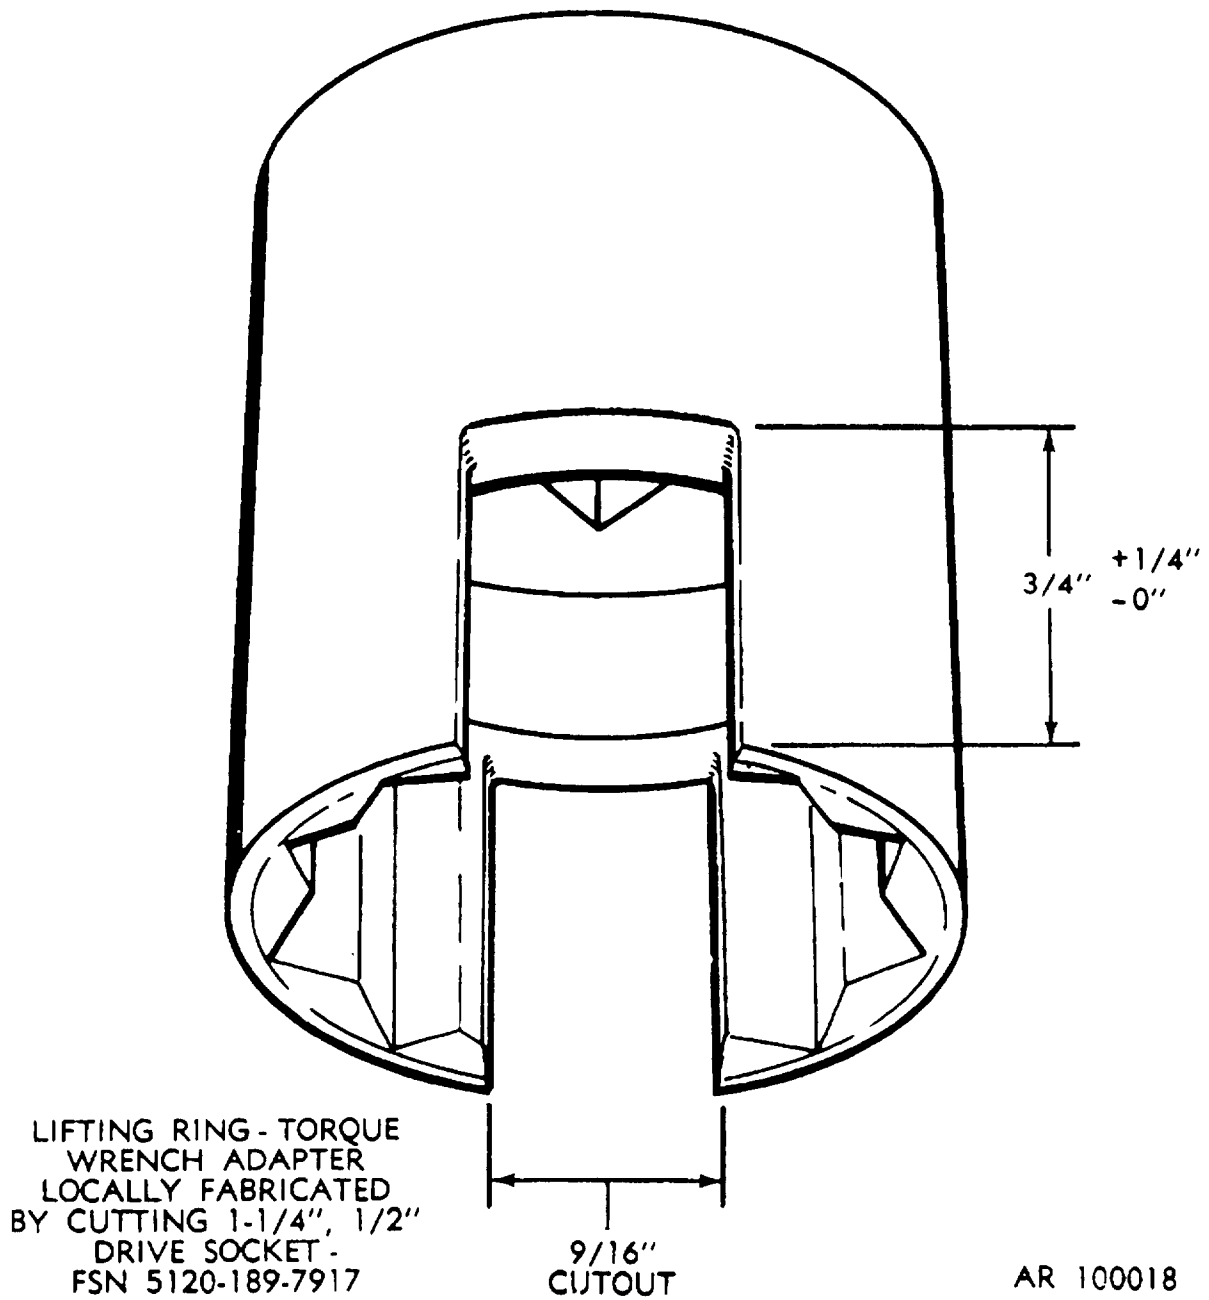

Figure 2-1. Lifting plug - torque wrench adapter.
b. Lifting Ring-Torque Wrench Adapter. Obtain a standard 1-1/4-inch socket, with a 1/2-inch drive and cut out according to figure 2-1.